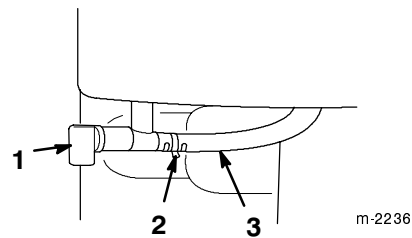

Figure 21
- **Fuel Shutoff Valve (Fig. 21)**—Close the valve by rotating it clockwise. Open the valve by rotating it counterclockwise. Close the valve when you do not use the snowthrower.
3. Open the fuel shutoff valve below the fuel tank (Fig. 21).